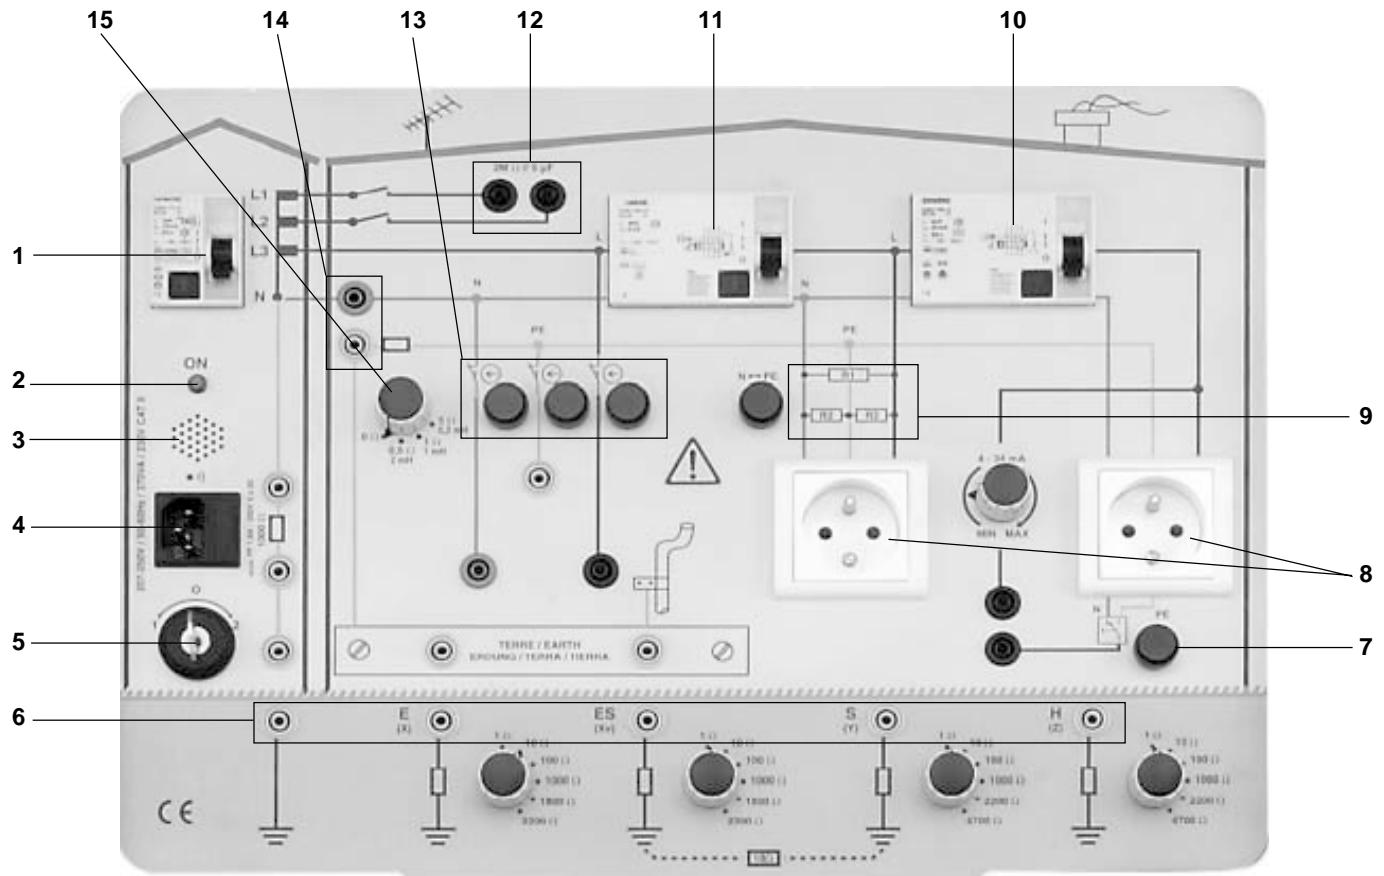

Figure 1
- Before using the demo case, see figure 1:
- Check that the differential system on the case's input (ref. 1) is set to position O
- Set the power on switch and phase-neutral inverter (ref. 5) to 0.
- If neither the buzzer nor the red LED are activated in position 1 or position 2, the fuse must be changed. Use the spare fuse next to the blown fuse installed, both located in the power socket (ref. 4). If the buzzer and the LED still do not work, **RETURN TO THE AFTER-SALES DEPARTMENT**.